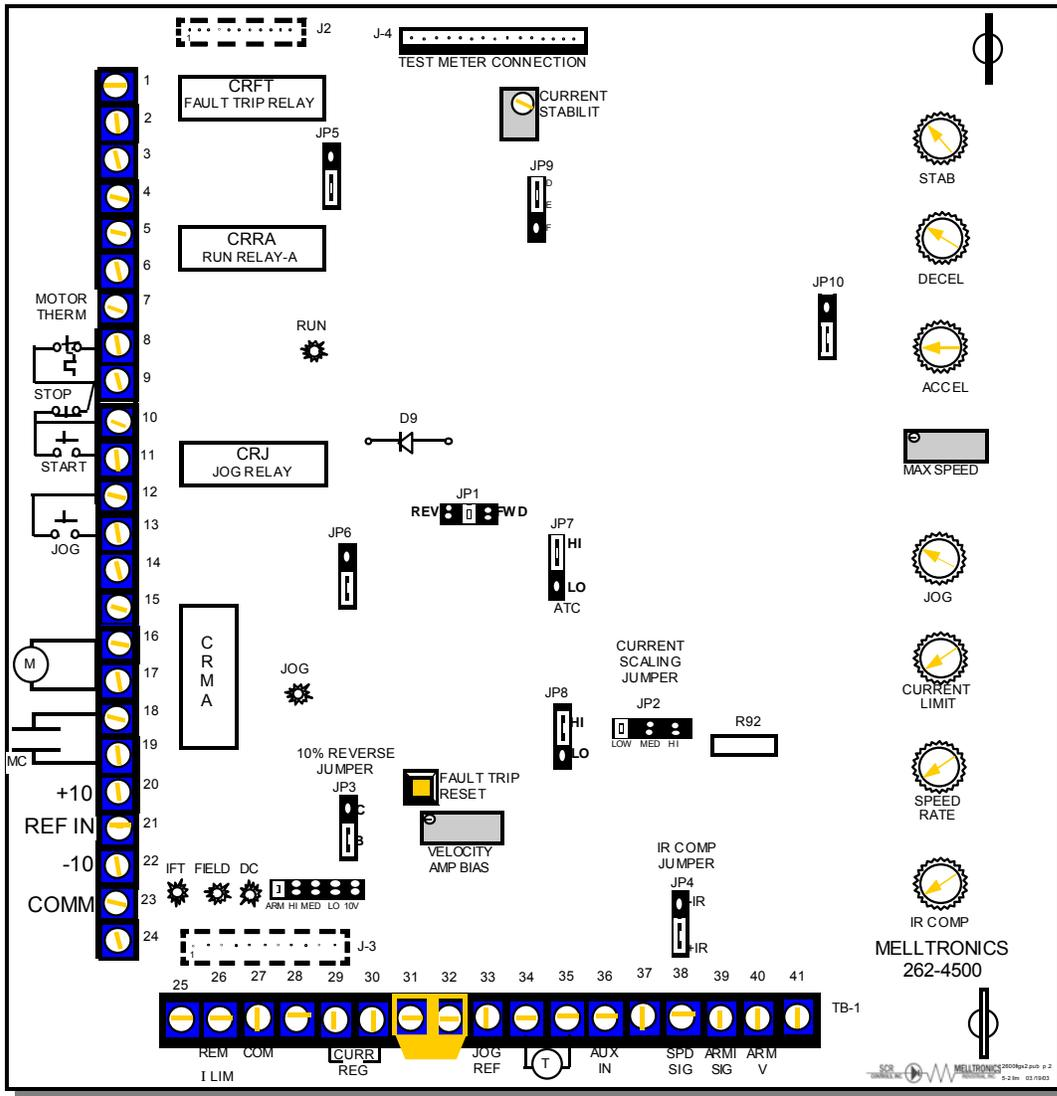

Figure 26: Upper Control Board Operating Features
There are nine (9) adjustment potentiometers located on the main control board. Refer to Figure 26.
Refer to Figure 26.